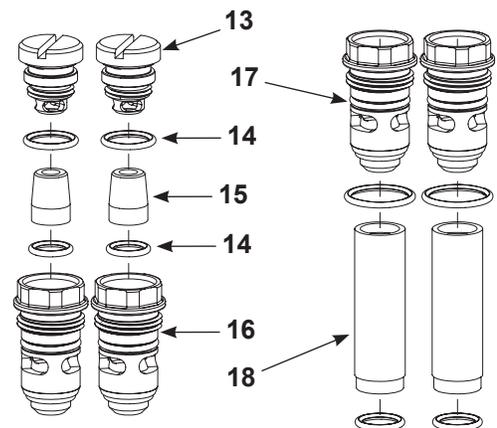

Figure 24 Assemble Fittings to Fluidizing Tubes
4. See Figure 24. Assemble the check valves (13) O-rings (12) access plugs (14), and fitting caps (10) together before replacing the fluidizing tubes (16). Then, once that is complete, assemble the complete access plugs (17) and additional O-rings onto the fluidizing tubes (18).